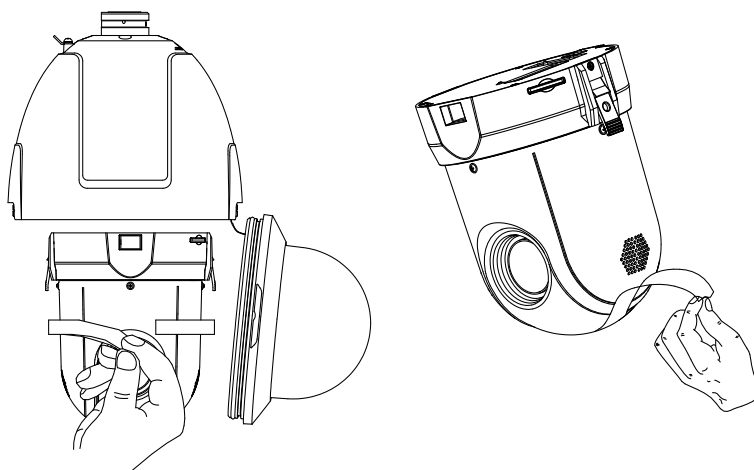

Figure 1-3 Remove the sticker for Integrated 5-inch speed dome
**For Separate 5-inch speed dome:** Pull the camera module to separate it from the back box, as shown in Figure 1-3.